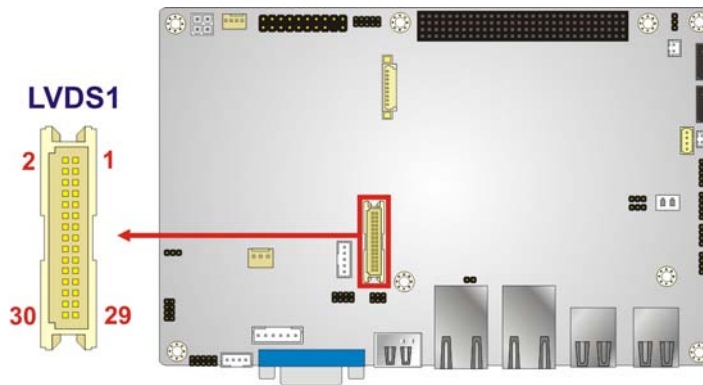

Figure 3-13: LVDS Connector Location
- CN Location:See **Figure 3-13**